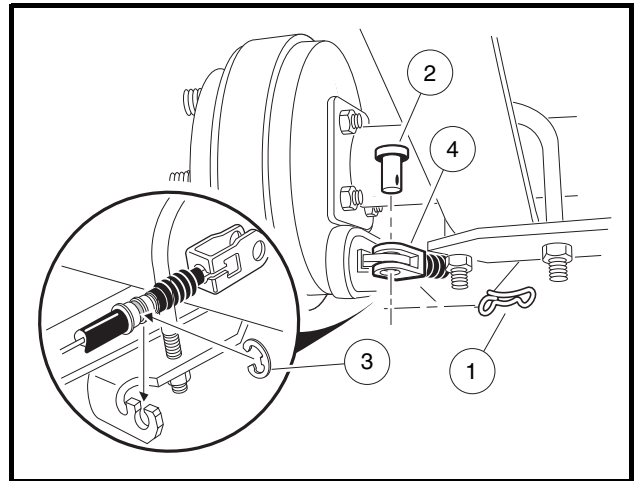

Figure 17-7 Brake Cables
4. Remove the bow tie pins (1), brake cable clevis pins (2), and cable retaining E-clips (3). Disconnect the brake cables (4) (**Figure 17-7, Page 17-5**).